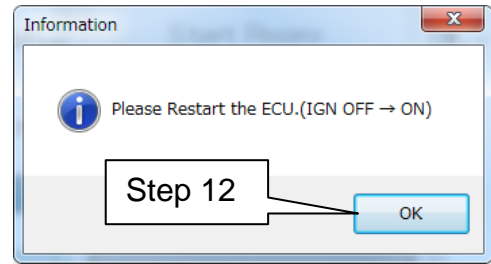
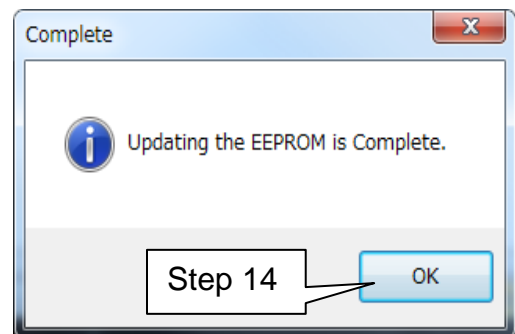

Figure 6
Figure 8
- After selecting OK in Figure 6, the OCS reprogramming will likely complete items 5 through 7 quickly (see “Complete” screen, Figure 8 below).
13 When this screen displays (Figure 8), OCS reprogramming is complete.